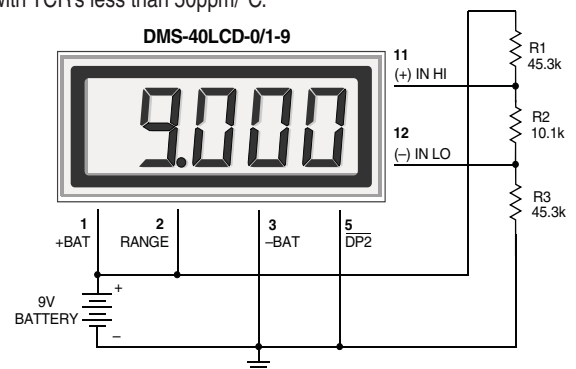

Figure 8. Power Supply Monitor (9V-Powered Models)
6. Power Supply Monitoring: A popular application for Murata Power Solutions' low-power LCD meters is monitoring the supply voltage in battery-operated portable equipment. Figure 8 demonstrates how a 9V-powered DMS-40LCD can be used to monitor its own supply. The meter used is the DMS-40LCD-0/1-9 configured for its ±2V input range (pin 2 connected to pin 1). A three-resistor voltage divider is used to attenuate the battery voltage and also to satisfy the requirement that the input voltages applied to pins 12 and 11 be at least 1.5 Volts above and below the battery voltage applied to pins 1 (+BATTERY) and 3 (-BATTERY).